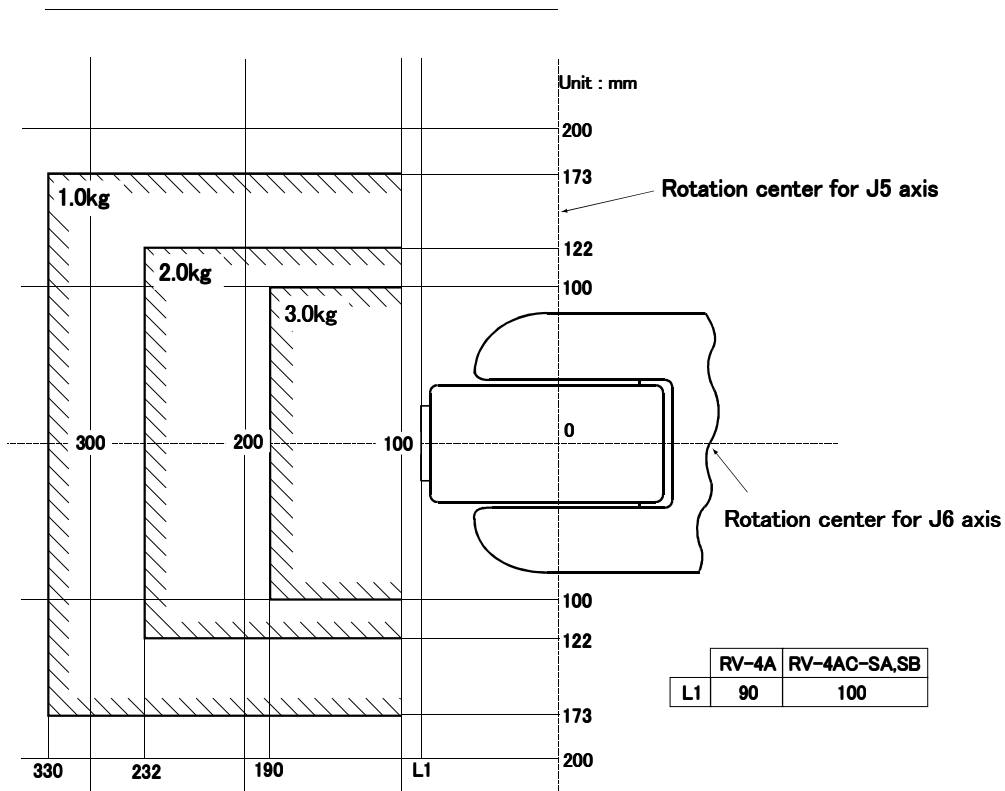
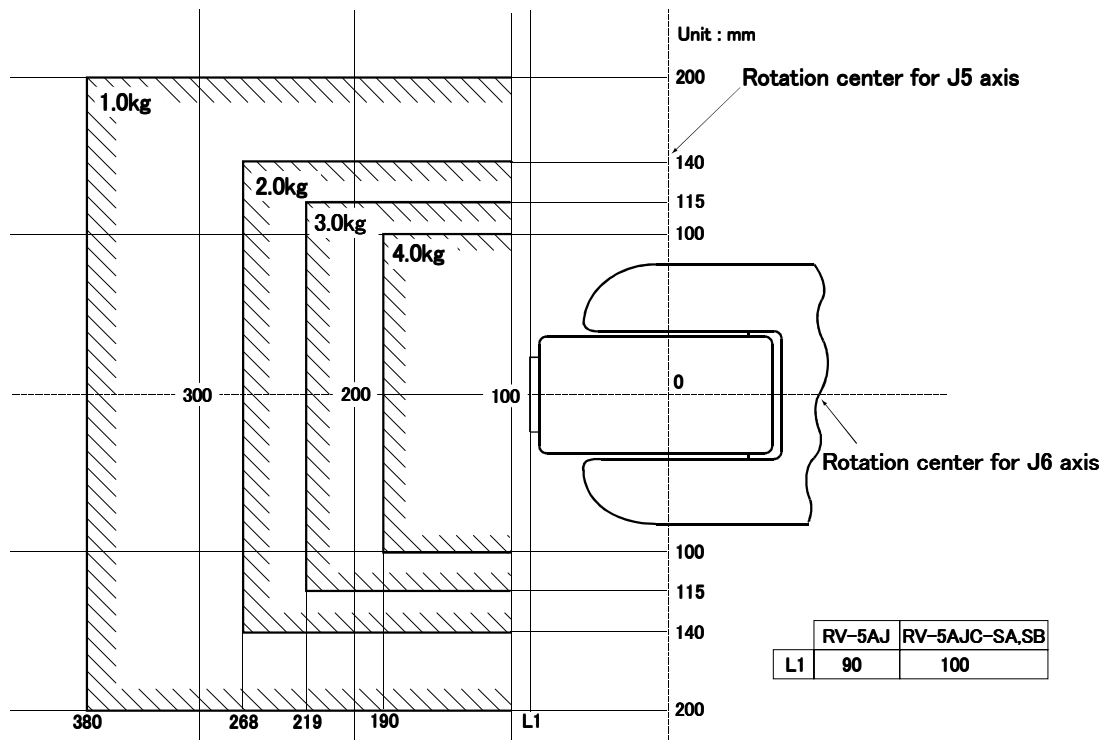
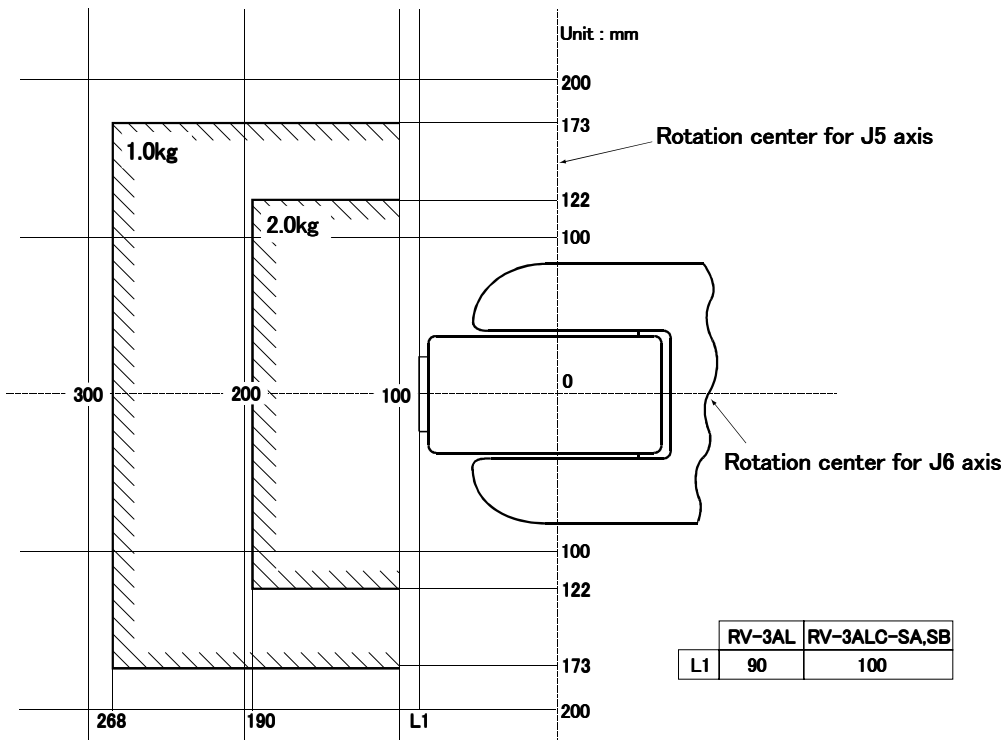
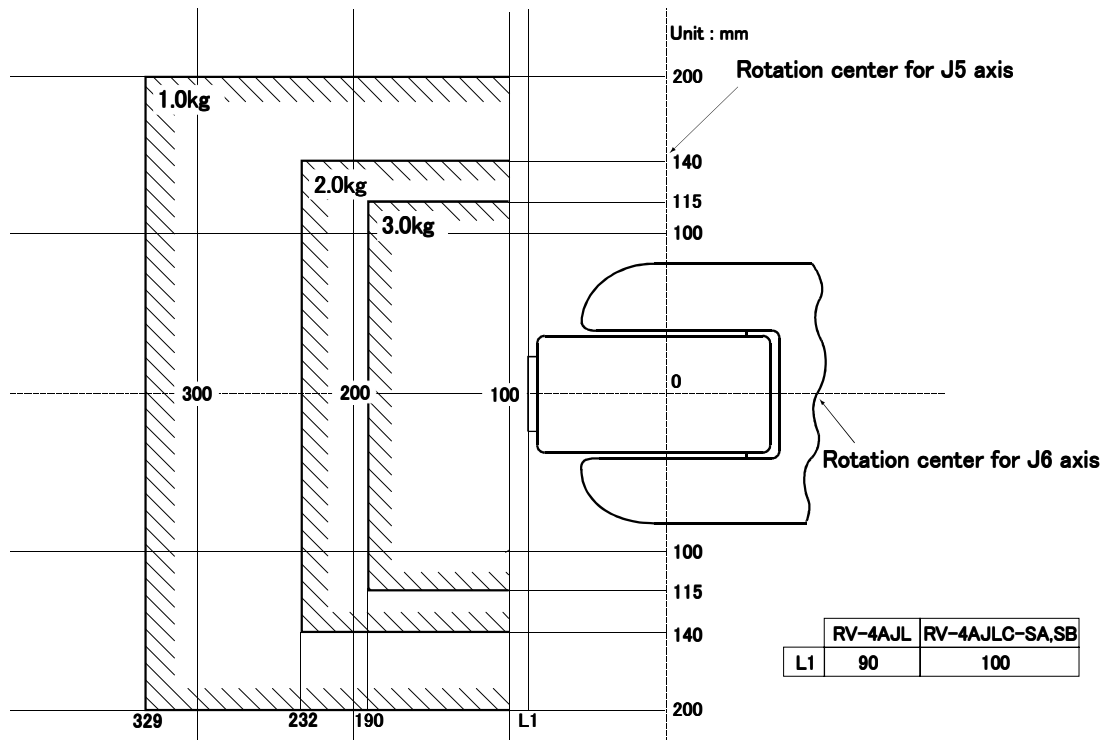

Fig.2-2 : Position of center of gravity for loads (for loads with comparatively small volume):RV-4A/4AC-SA,SB
Fig.2-3 : Position of center of gravity for loads (for loads with comparatively small volume):RV-5AJ/5AJC-SA,SB
Fig.2-4 : Position of center of gravity for loads (for loads with comparatively small volume):RV-3AL/3ALC-SA,SB
Fig.2-5 : Position of center of gravity for loads (for loads with comparatively small volume):RV-4AJL/4AJLC-SA,SB
- (1) The tooling should have the value less or equal than the smaller of the tolerable inertia and the tolerable moment found in Page 5, "Table 2-1 : Tab Standard specifications of robot".
- (2) Fig. 2-2, Fig. 2-3, Fig. 2-4, and Fig. 2-5 shows the distribution dimensions for the center of gravity in the case where the volume of the load is relatively small. Use this figure as a reference when designing the tooling.
- (3) When the load is not mass, but force, you should design the tooling so that it does not exceed the value for allowable moment described in Page 5, "Table 2-1 : Tab Standard specifications of robot".